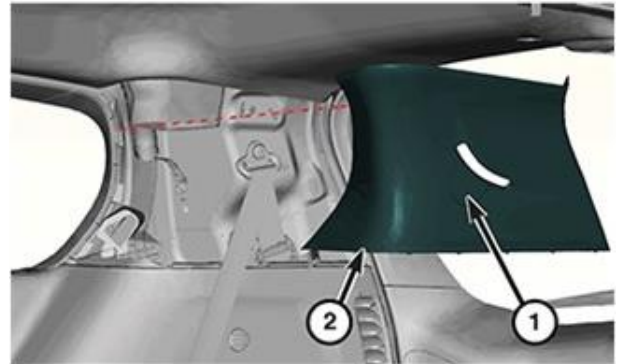

Figure 8 – D-Pillar Trim Panel
- 18. Remove the fastener cover then remove the fastener securing the D-pillar trim panel (Figure 8).
- 19. Using a trim stick or equivalent, release the retaining clips at the rear and top of the D-pillar trim panel (Figure 8).
- 20. Using a trim stick release the bottom of the D-pillar trim panel from the quarter trim panel, then pull at the front edge to release the front retaining clips (Figure 8).
- 22. Using a flat bladed tool, press the tab to disengage the airbag tether and slide it out of D-pillar trim panel (Figure 8).